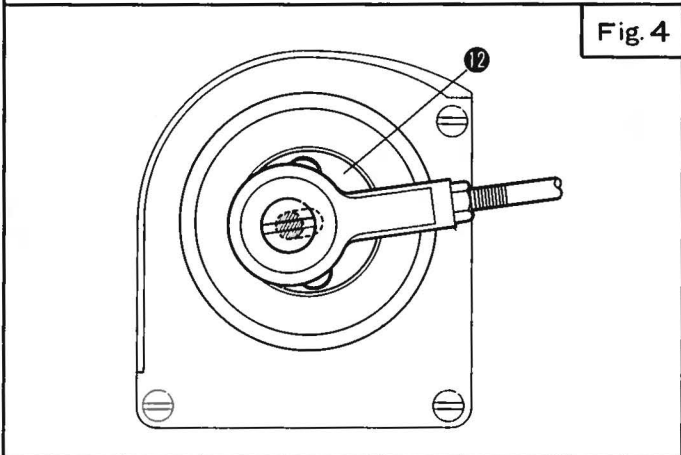

Fig. 4
1. Mount Base ② on the machine with Screws ④ and Washers ③ so that the front edge 'A' of Feed Roller ⑪ is vertical to the feed slots 'B' of Needle Plate.
- * Roller ⑪ does not interfere Presser Foot.
- * Frame Cover ⑫ is parallel and approximately 4mm apart from Machine Arm (Left).
- * Roller ⑪ can be lifted 5.5mm up or more.
- * Roller ⑪ is even and flat on Cloth Plate.If necessary, move the URF device a little and adjust the above.
3. Tighten Screws ④ securely.
4. Set Nut ⑦ and Washer ⑥ at the center of the long groove of Lever ⑧.
6. Set Washer ⑩ and Screw ⑨ in the groove end of Eccentric ⑫ (Fig. 4). See ADJUSTING THE FEED AMOUNT OF ROLLER ⑪ below.
7. Set Lever ⑮ with Screws ⑬ for Foot Lift Lever ⑭.